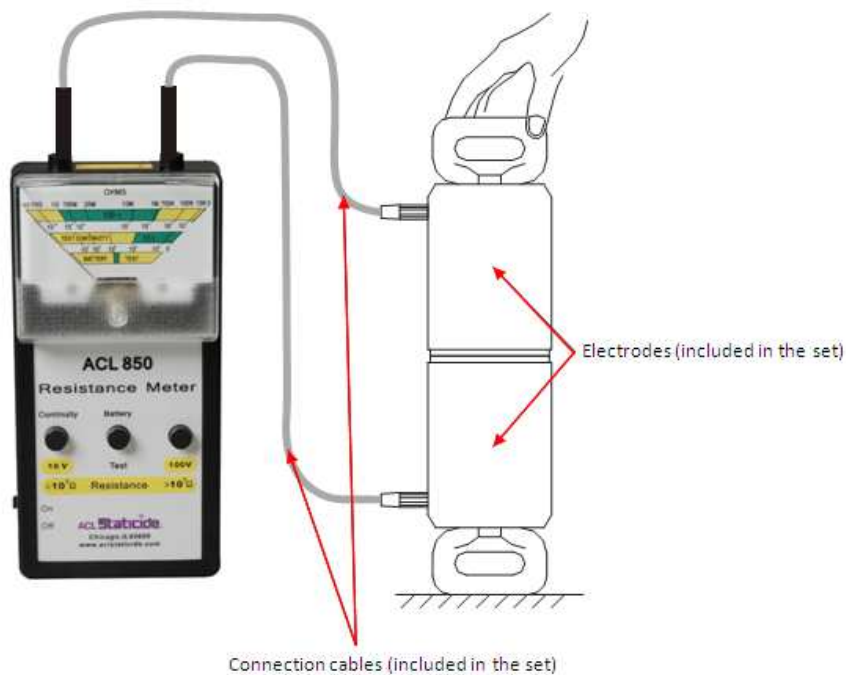

Fig. 3
- Put the electrodes on a flat surface as it's shown on Fig. 3 and hold the upper electrode by the handle.